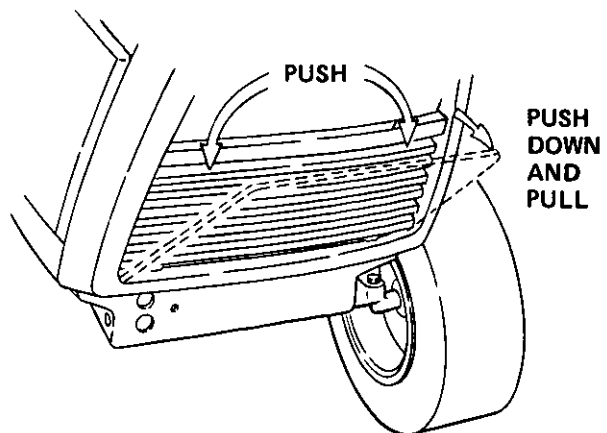
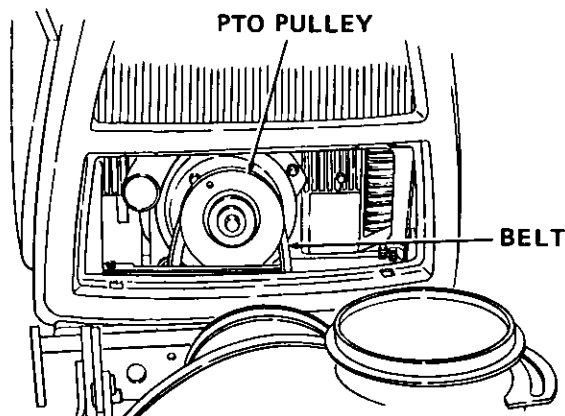

Figure 24
Figure 25
- b. FOR TRACTORS WITH SERIAL NUMBER 800,000 AND ABOVE ONLY, push down on top of grille insert and pull forward as shown in Figure 24. Lift grille insert up removing tabs from bottom of grille housing. Roll belt onto PTO pulley on front of tractor as shown in Figure 25.